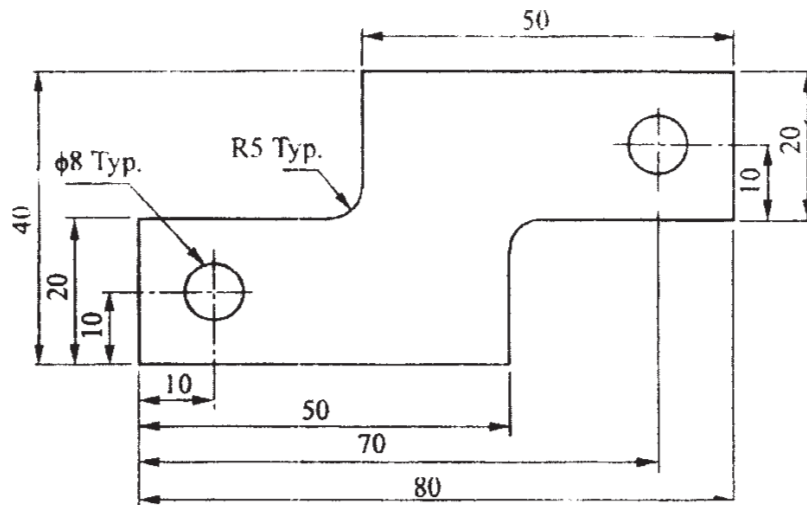

Figure 3
- b) Write a CNC program in G and M codes for drilling the two holes in part as shown in the Figure 3 also write remark for each block. [8]